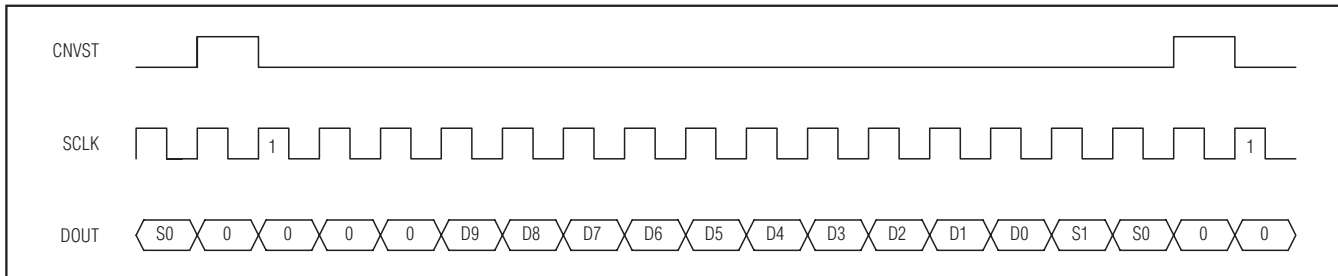

Figure 17. DSP Interface—Continuous Conversion
The MAX1077/MAX1079 can also be connected to the TMS320C54_ by using the data transmit (DX) pin to drive CNVST and the CLKX generated internally to drive SCLK. A pullup resistor is required on the CNVST signal to keep it high when DX goes high impedance and 0001hex should be written to the DXR continuously for continuous conversions. The power-down modes can be entered by writing 00FFhex to the DXR (see Figures 17 and 18).
can be selected to eliminate the need for writing to the transmit-data register more than once. For single conversions, idle CNVST high and pulse it low for the entire conversion. The ADSP21_ _ STCTL and SRCTL registers should be configured for late framing (LAFR = 1) and for an active-low frame (LTFS = 1, LRFS = 1) signal. This is also the best way to enter the power-down modes by setting the word length to 8 bits (SLEN = 1001). Connect the V_L pin to the ADSP21_ _ supply voltage when the MAX1077/MAX1079 are operating with a supply voltage higher than the DSP supply voltage (see Figures 17 and 18).